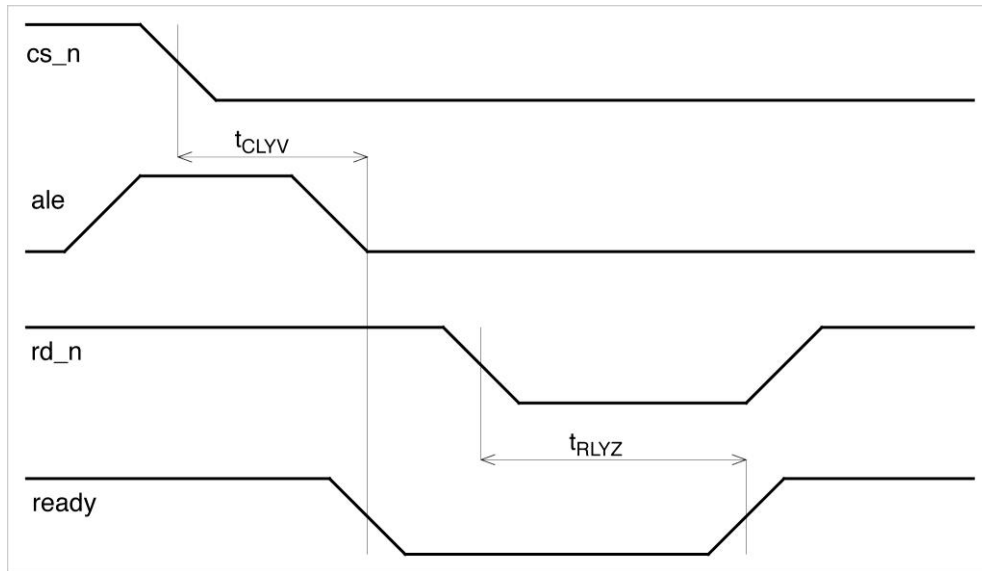

Figure 8. Mode 0 and Mode 1: Ready Timing for Read Cycle
- Mode 0 and Mode 1: Ready Timing for Read Cycle (Table 10/Figure 8)